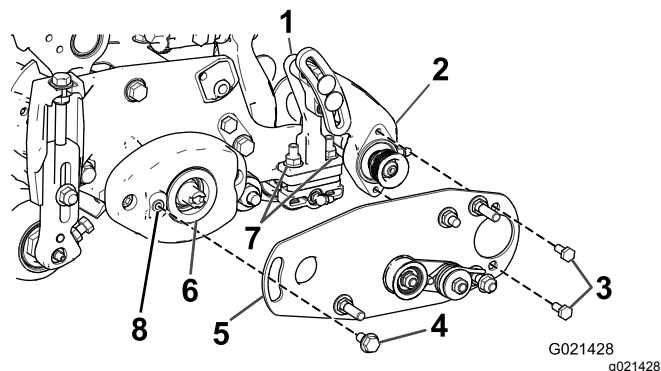
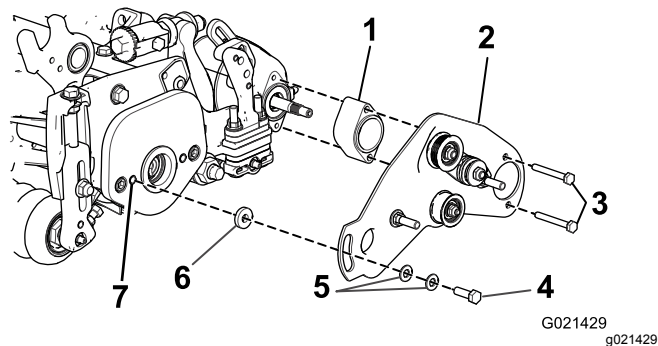

Figure 15
Figure 16
21. Apply a coating of grease to the inner diameter of the grommet in the bearing housing (Figure 15 and Figure 16).
22. Loosen but do not remove the bolts securing the roller brush bearing housing to the roller brush mounting bracket (Figure 15 and Figure 16).
23. **On the 22-inch cutting unit only**, slide the brush shaft spacer into place (Figure 16).
24. Install the left or right roller brush pivot plate (Figure 15 and Figure 16).
Note: Ensure that the idler-pulley assembly is installed on the bottom as shown in Figure 15 and Figure 16.
25. Apply 242 Loctite (blue) to the 2 bolts (5/16 x 5/8 inch) and use them to mount the brush plate to the roller brush bearing housing (Figure 15 and Figure 16). Torque the bolts to 20–25 N·m (15–19 ft-lb).
- Loosen the 2 flange locknuts securing the roller brush mounting bracket to the cutting unit side plate (Figure 15 and Figure 16).
- Rotate the roller brush bearing housing until the brush plate is parallel to the cutting unit side plate (Figure 15 and Figure 16).
- Tighten the 2 flange locknuts securing the roller brush mounting bracket to the cutting unit side plate (Figure 15 and Figure 16).
30. Use 5/16-18 TAP to clean out threading before screwing in shoulder bolt to the cutting unit (Figure 15 and Figure 16).
31. Apply 242 Loctite (blue) to the shoulder bolt (Figure 15 and Figure 16).
32. Secure the brush plate to the roller brush housing with the shoulder bolt. (Figure 15 and Figure 16).